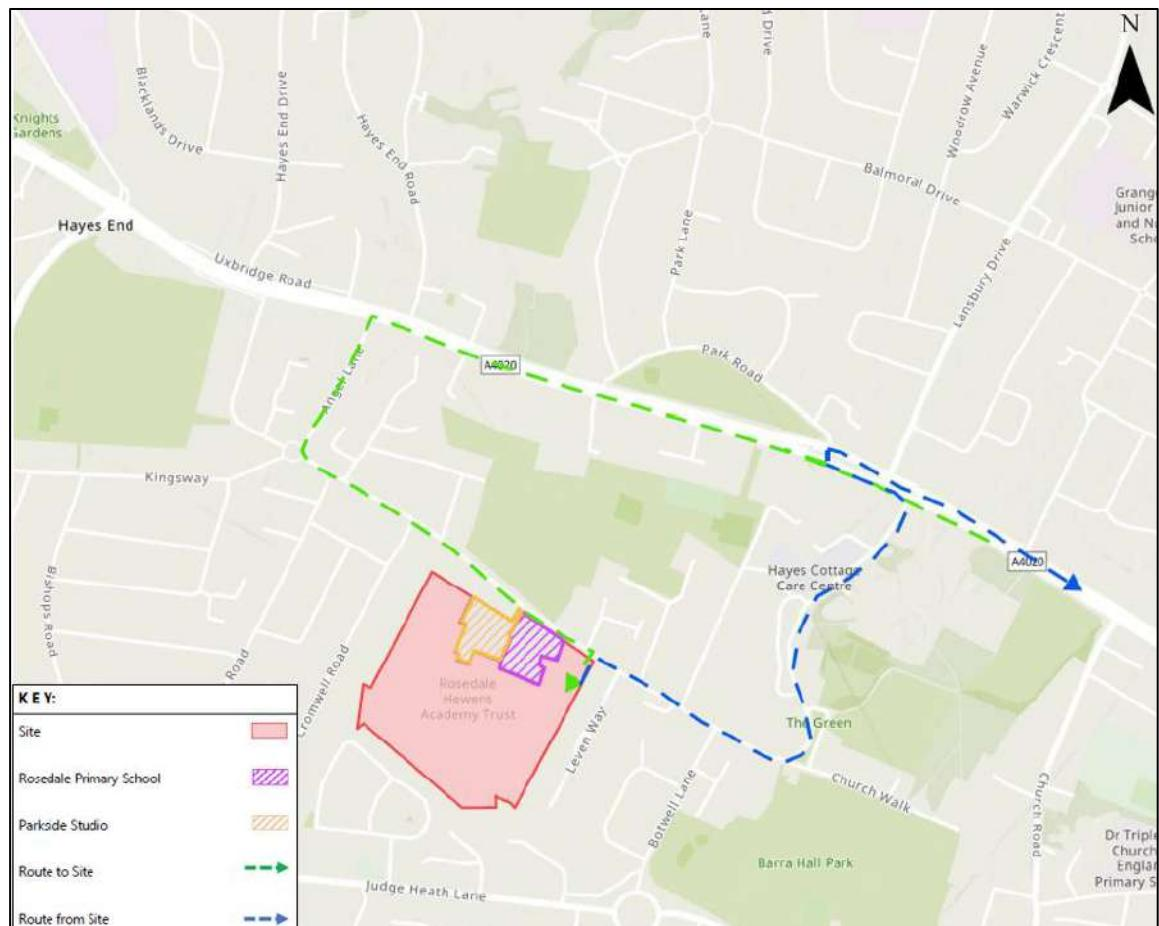

Figure 4.1 – Recommended Vehicle Route Plan
4.1 The recommended construction vehicle route is shown in **Figure 4.1** below and summarised as follows: